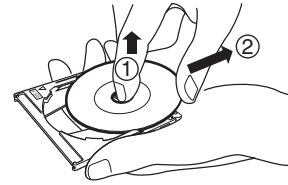

Fig. 6-2a
- 1) Insert your finger into the hole in the center of disc and lightly lift it up (in the direction of arrow ① ). (Fig. 6-2a)
- 2) Hold the disc at its edge and center hole, and remove it in the direction of arrow ② (obliquely upward).